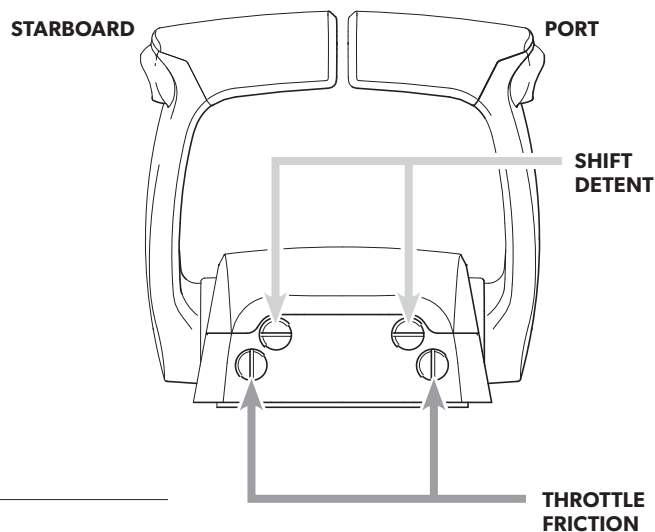
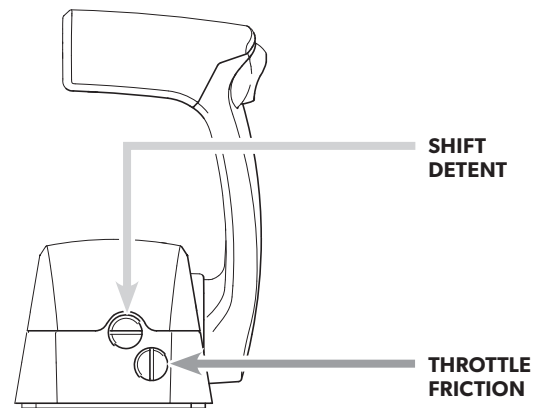

Figure 14-5.
Figure 14-8.
- The friction drag on the lever is adjusted with the throttle friction adjuster screw (see figure 14-5 or figure 14-8). Turn the screw clockwise to increase the friction on the lever, counter-clockwise to reduce the friction.